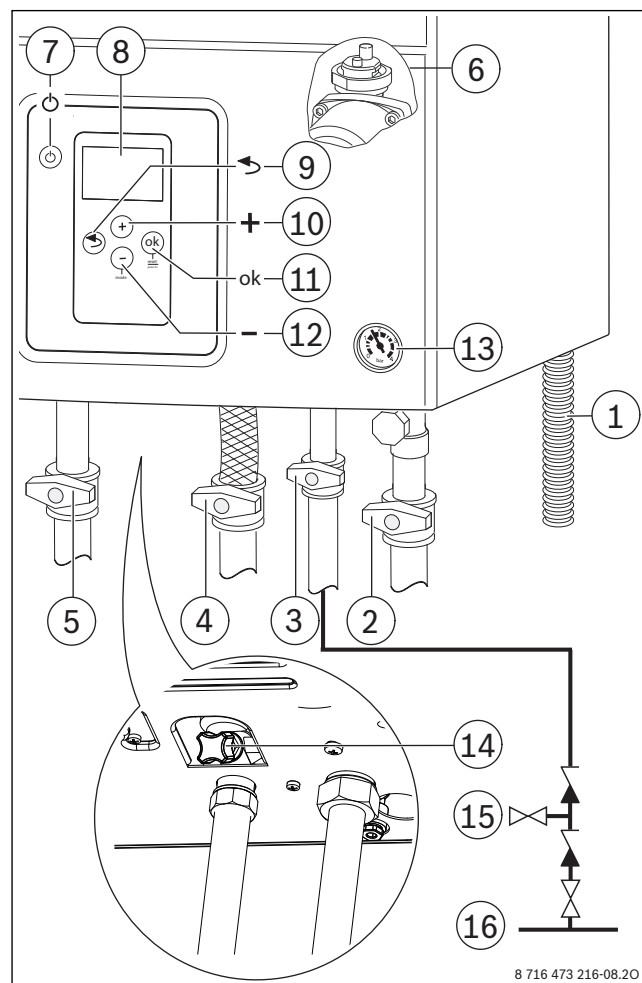

Fig. 18
- ▶ Open the automatic air vent valve (leave open) (→ Fig. 18, [7], page 15).
- ▶ Open the heating flow valve and heating return valve (→ Fig. 18, [6] and [2], page 15).
- ▶ Open the gas valve (→ Fig. 18, [4]).